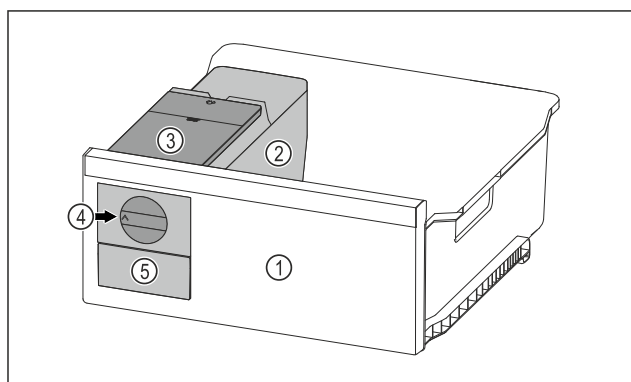

Fig. 80 Example illustration
- Turn the rotary knob Fig. 80 (4) clockwise as far as it will go.
- ▷ Ice cubes fall from the ice cube tray into the ice cube drawer Fig. 80 (5).